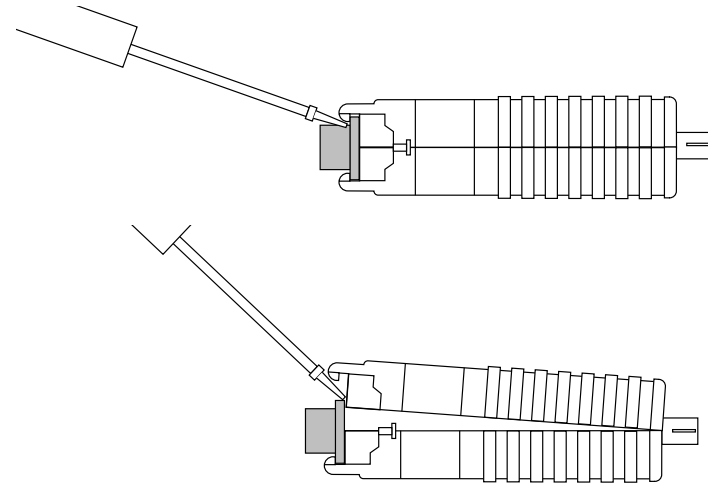

Figure 2. Using a small screwdriver to open the Model 1110 case
- 1) Open the Model 1110 case by inserting a small flat-blade screwdriver between the case lip and DB-25 connector and twisting gently (see figure 2, opposite page).